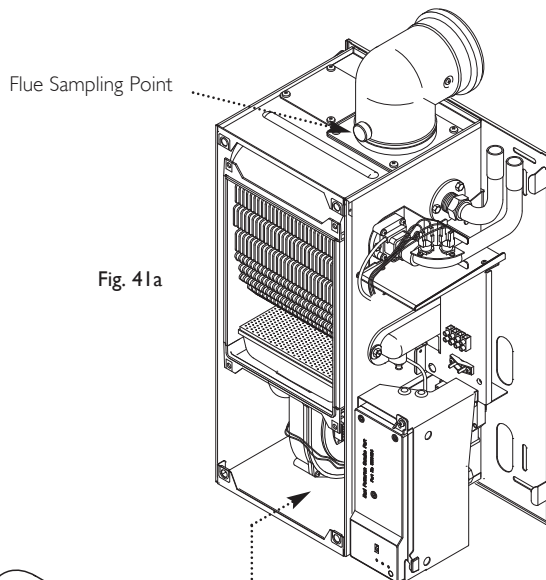

Fig. 41a
12. Check the CO/CO² ratio and CO² level at the flue sampling point (Fig.41a) as is quoted in Section 4.0, 'Technical Data'.